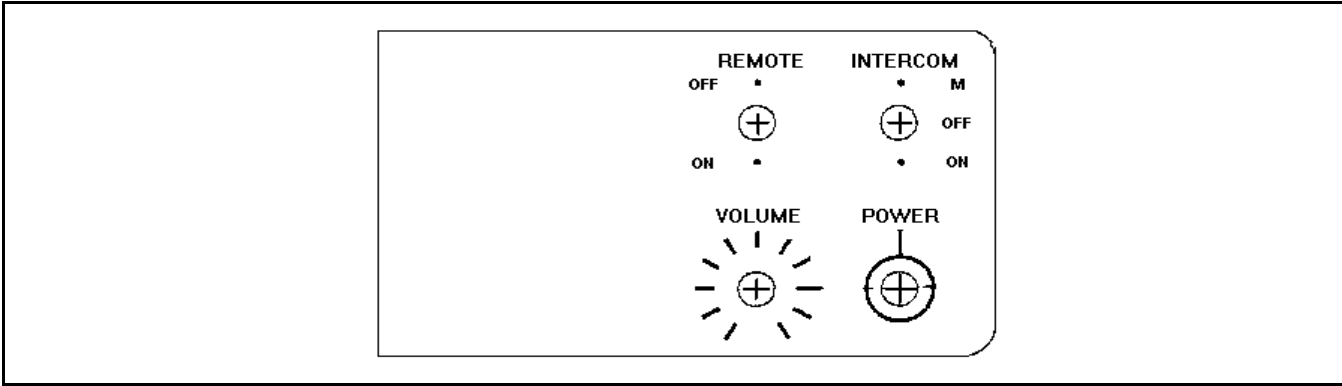

Figure 5 - Control Panel with Remote Option
2. **Standard Station with Remote Option** - In addition to the LED POWER indicator, there is a REMOTE ON/OFF switch, an INTERCOM ON/OFF switch, and a VOLUME control switch (see Figure 5).